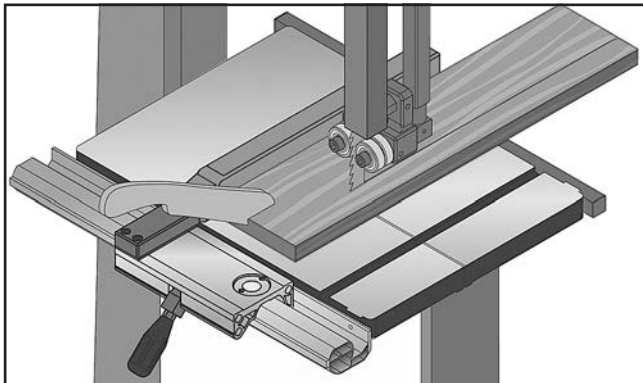

Figure 79. Example of a ripping operation.
3. After all safety precautions have been met, turn bandsaw **ON** and wait for it to come to full speed. Slowly feed workpiece into blade until blade is completely through workpiece. **Figure 79** shows an example of a ripping operation.